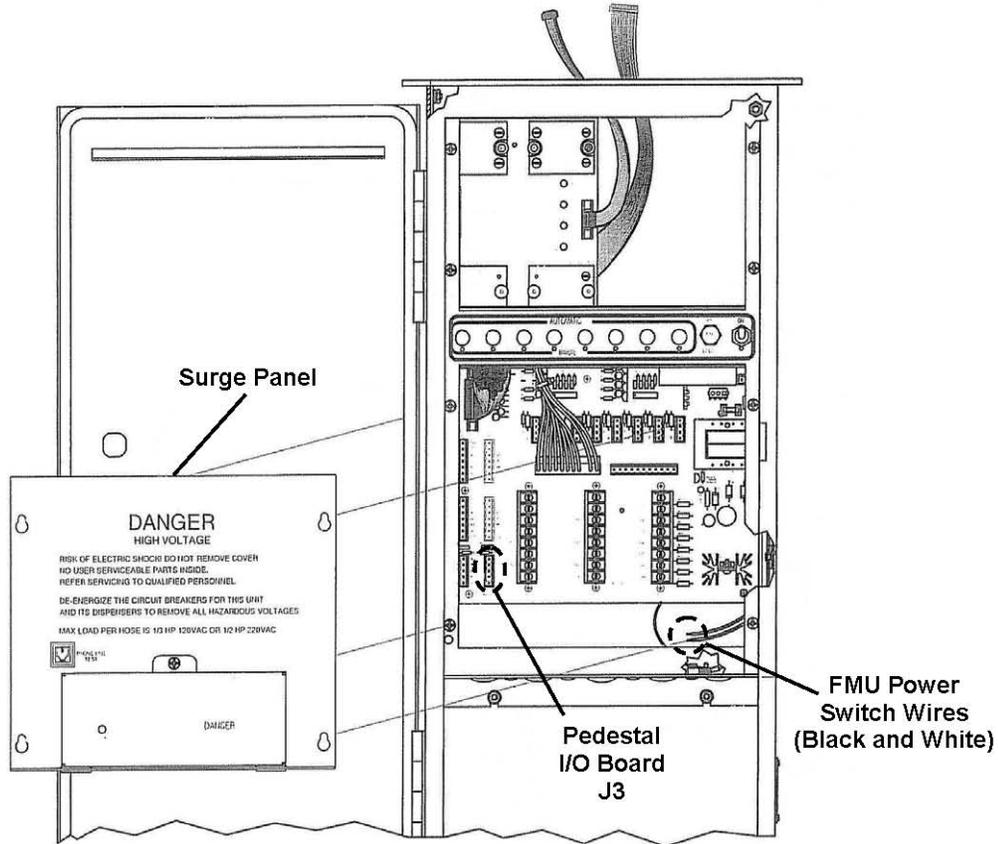

Figure 4-4. AC Power and Phone Connections
1. **A/C Power** (see Figures 4-4 and 4-5)
2. **Telephone/Two-Way Ringdown Device** (see Figures 4-4 and 4-5; not applicable to Satellite FMUs)